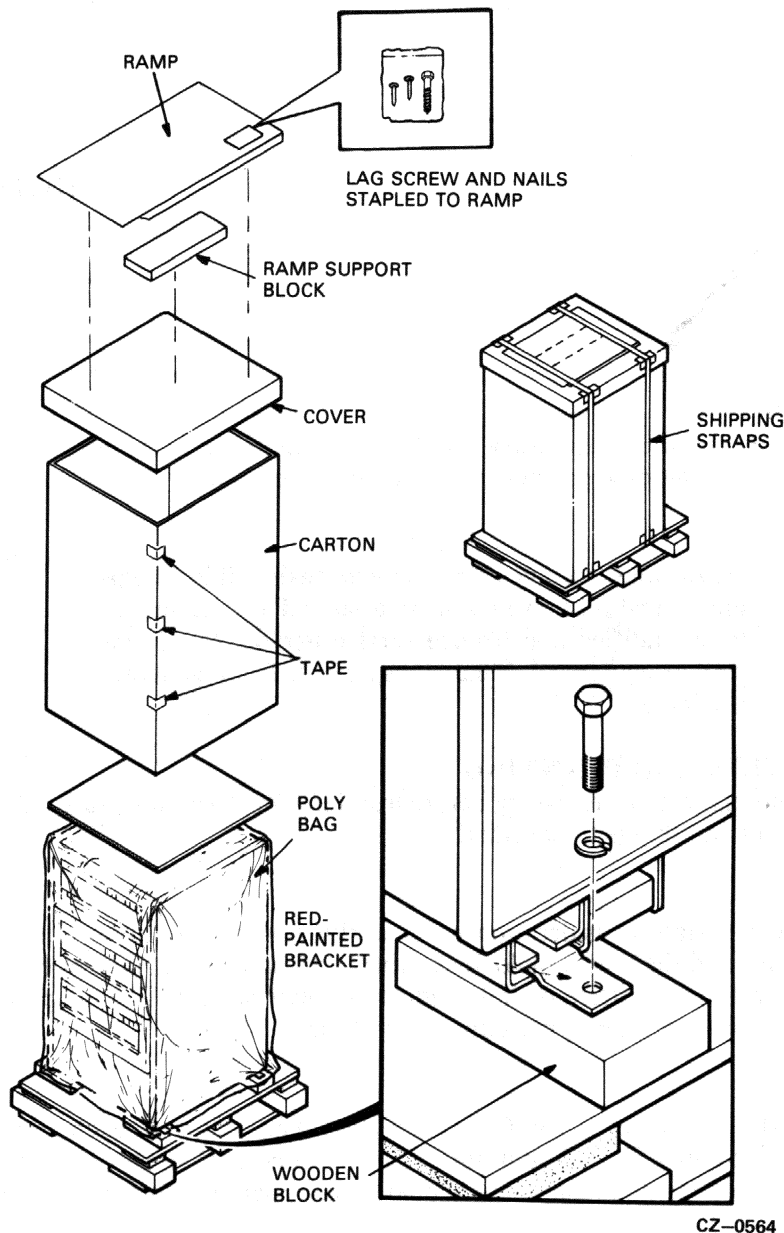

Figure 2-1 Unpacking the Disk Subsystem
1. Remove the external packing material shown in Figure 2-1.
2. Remove the four shipping bolts that fasten the drive cabinet to the pallet. See insert in Figure 2-1.